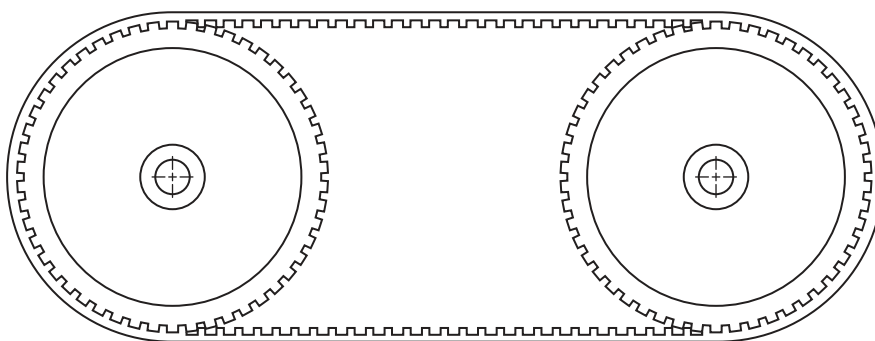

Figure 11.5
(c) Figure 11.5 shows a toothed belt connecting two pulleys.
- (i) Draw on Figure 11.5 to show a method of maintaining tension in the belt when the two pulleys must remain at a constant distance apart.